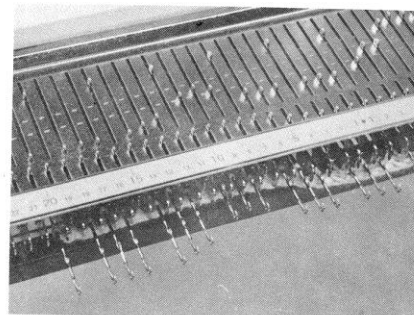

Fig.127
- a) Lift and move back the carriage to the starting end. (Fig.127)